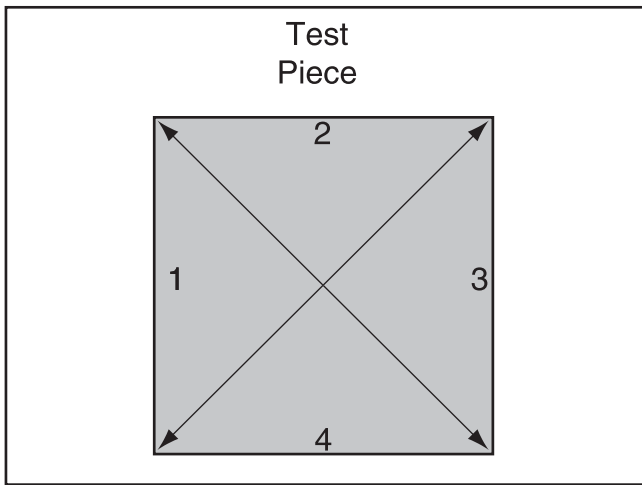

Figure 85. Fence adjustment test piece.
2. Prepare the scrap test piece by numbering all four sides as shown in **Figure 85**.
4. Measure the test piece diagonally from corner-to-corner as shown in **Figure 85**.